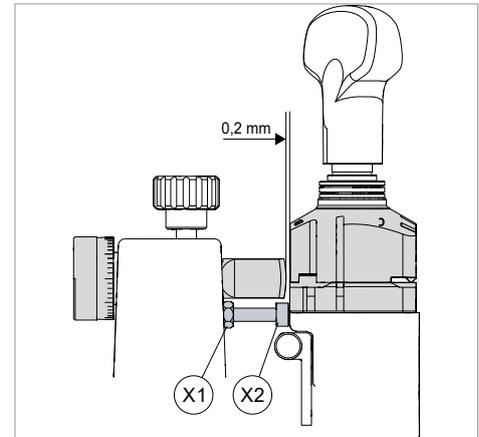

Fig. 37
**⚠ ATTENTION:** turn off the machine with motor switch (T), turn off main power switch (N), close the switch protection cover (N1) and check that it is NOT connected to the battery.
- 1) Raise the carriage and carry the clamps to the end of its run towards tracer point and cutting tool (Fig. 37)